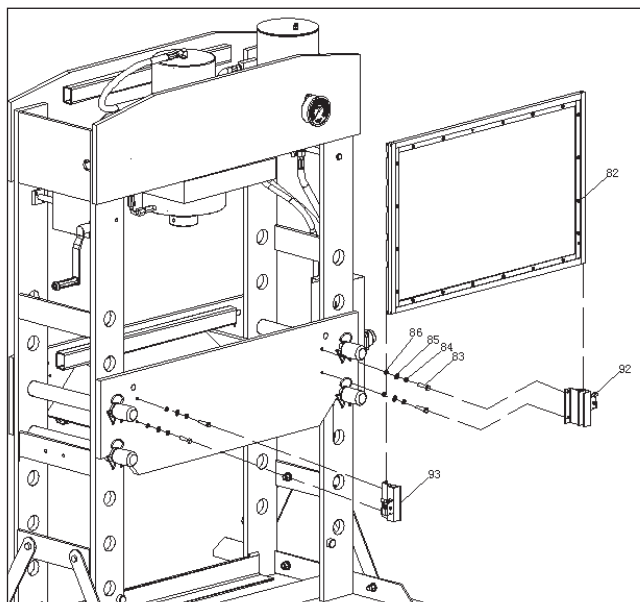

Fig. 11
- Take out screw M8*45 (83), washer 8 (84), lock washer 8 (85) and nut 8 (85), assemble the slide (92/93) to the frame, and tighten it. Then insert the grid guard (82) (refer to Fig. 11).